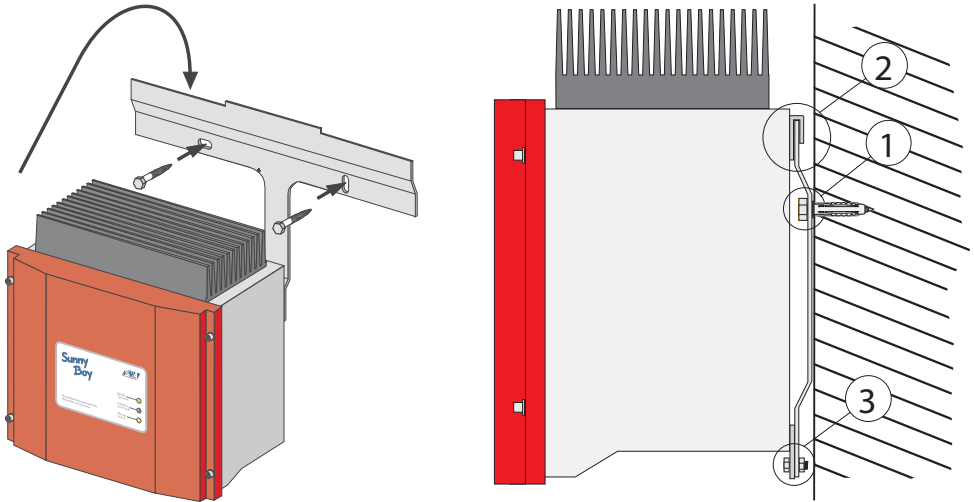

Figure 3-4 Sunny Boy 700U with Mounting Bracket
The Sunny Boy 700U is shipped with a T-shaped wall-mounting bracket that is suitable for use with most walls (see Figure 3-4). The horizontal part of the T bracket has two holes spaced for 16-inch centers for mounting on wooden wall studs, or it can be mounted on concrete or stone walls. Make sure that the wall you choose to mount the Sunny Boy on is sturdy enough to support its weight (16 kg/36 lb.) over a long period of time and that the wall is plumb.
5. Insert two stainless-steel lag screws through the holes in the horizontal part of the wall-mounting bracket and into the holes you drilled in the wall. Tighten the screws until the bracket is held firmly against the wall (see #1 in Figure 3-4). Do not over-tighten the screws.
6. Carefully lift the Sunny Boy into position near the mounting bracket. The upside-down, U-shaped bracket attached to back of the Sunny Boy at the top edge fits over the top edge of the bracket so that the Sunny Boy hangs from the bracket (see #2 in Figure 3-4).
9. Insert an M6x10 bolt through the hole in the mounting strap and into the threaded hole in the bottom end of the wall-mounting bracket (see #3 in Figure 3-4).